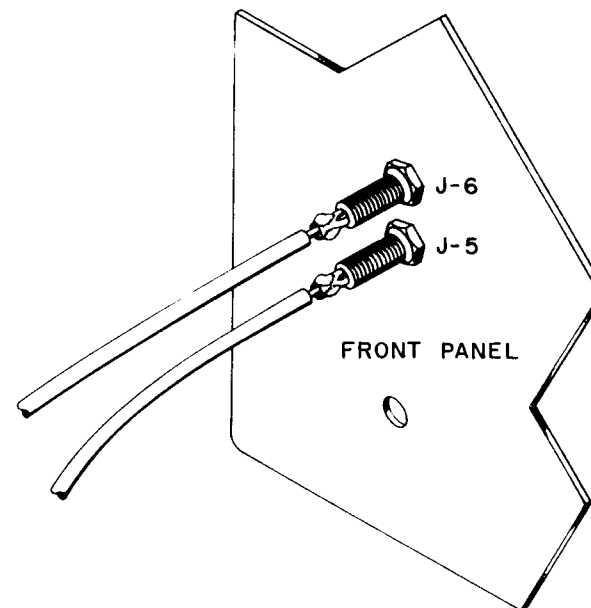

FIGURE 16. PIN JACK MOUNTING
- ☒ Two pin jacks. Mount each jack with a nut as shown in Figure 16.